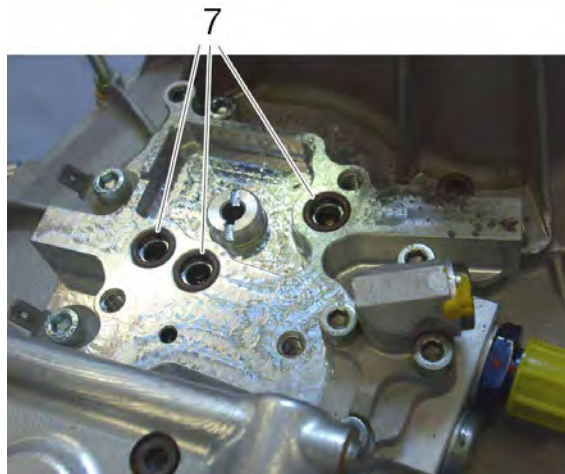

Figure 6
2. *Fit one O-ring (item 7) into each of the three designated places in the ground plate. See Figure 6.*
- ◆ **Note:** *Before fitting the O-rings (item 7), lightly moisten them with gearbox oil.*